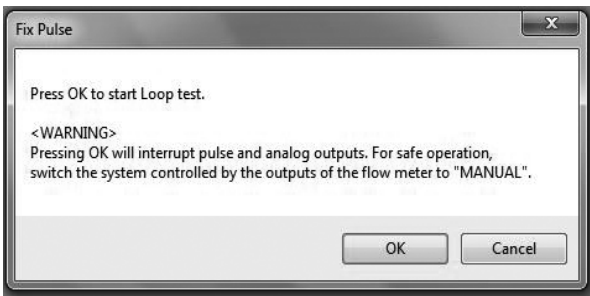

Fig. 3-54
- (3) By clicking "Start" button, the message box (Fig. 3-54) will be displayed. By clicking "OK" button, "Fix Pulse" will be started.